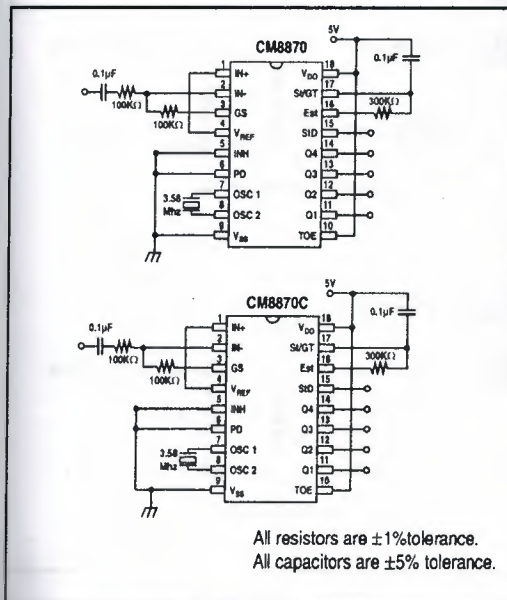
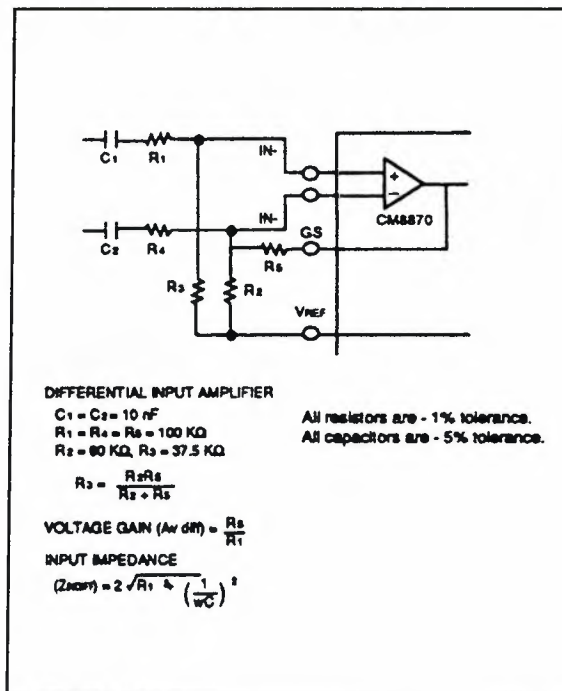

Figure 1.
Figure 6. Differential Input Configuration
- Referenced to Figure 1. Input DTMF tone level at -28 dBm.
The value of  $t_{DP}$  is a parameter of the device and  $t_{REC}$  is the minimum signal duration to be recognized by the receiver. A value for C of 0.1 uF is recommended for most applications, leaving R to be selected by the designer. For example, a suitable value of R for a  $t_{REC}$  of 40 milliseconds would be 300K. A typical circuit using this steering configuration is shown in Figure 1. The timing requirements for most telecommunication applications are satisfied with this circuit. Different steering arrangements may be used to select independently the guardtimes for tone-present ( $t_{GTP}$ ) and tone absent ( $t_{GTA}$ ). This may be necessary to meet system specifications which place both accept and reject limits on both tone duration and interdigit pause.
In a single-ended configuration, the input pins are connected as shown in Figure 1, with the op-amp connected for unity gain and  $V_{REF}$  biasing the input at  $\frac{1}{2} V_{DD}$ . Figure 6 shows the differential configuration, which permits the adjustment of gain with the feedback resistor R5.